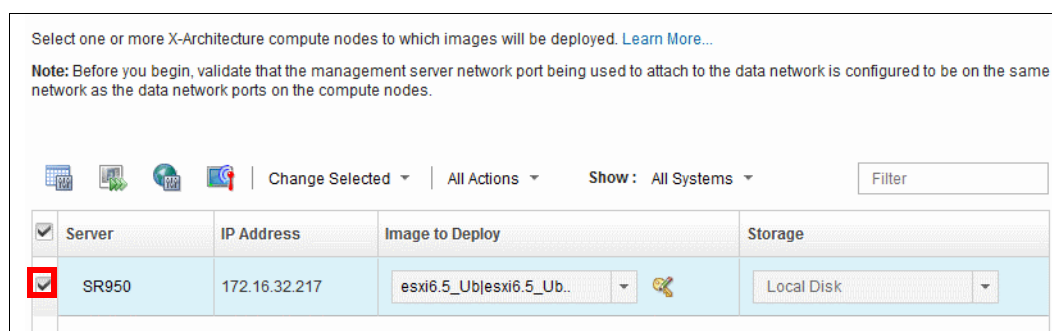

Figure 6-21 Select servers and images
3. Select the server or multiple servers to which the operating system is to be deployed as shown in Figure 6-21. You can deploy an operating system on up to 28 servers at one time.